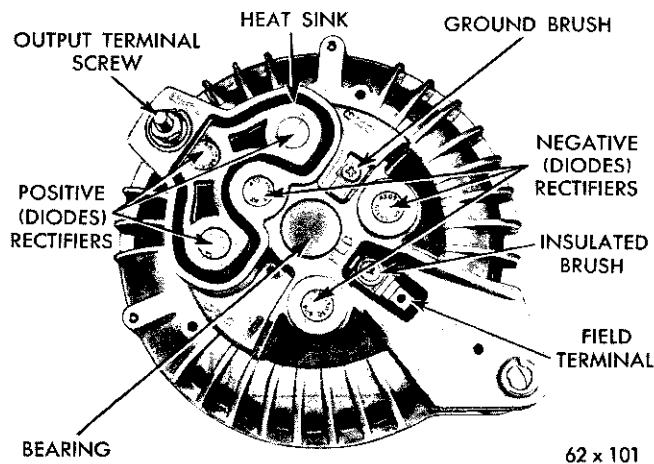

Fig. 1—Alternator Assembly
The alternator (Fig. 1) is fundamentally an A.C. current generator, with six (6) built-in silicon rectifiers, that convert the A.C. current into D.C. current. D.C. current is available at the "output" "BAT" terminal. A voltage regulator (Fig. 2) is used in the field circuit to limit the output voltage.